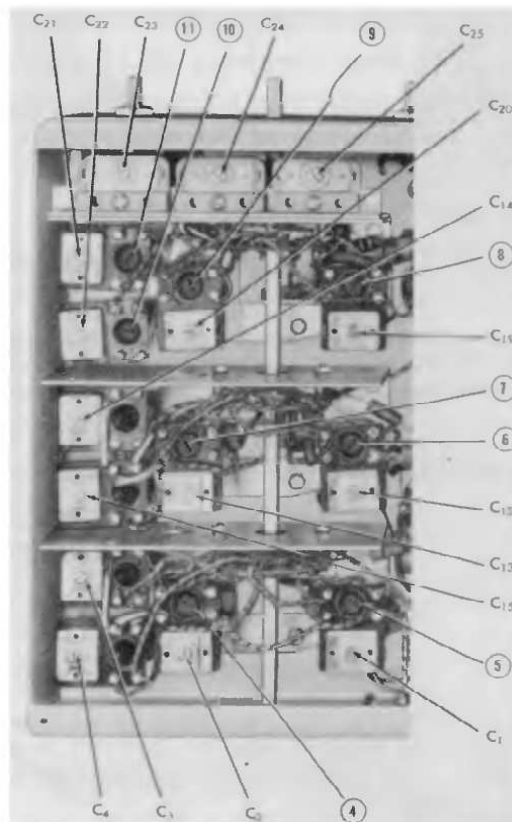

Figure 5-1. Radio Receiver Model S-40, view showing aligning points.
**(2) I-F Amplifier Alignment. - (See Fig. 5-1)**
(e) Adjust transformers T-13, T-14, and T-15 for maximum output meter reading using just enough signal generator output to provide a good resonant swing on the output meter. The signal level at the generator should be approximately 52 microvolts for a 500 milliwatt audio output level. Repeat the alignment procedure until assured of accurate alignment. Refer to figure 5-1 for the location of i-f transformer adjustment screws #1 through #3 inclusive on transformers T-13, T-14, and T-15.
NOTE - Refer to figure 5-1 for all r-f alignment points.